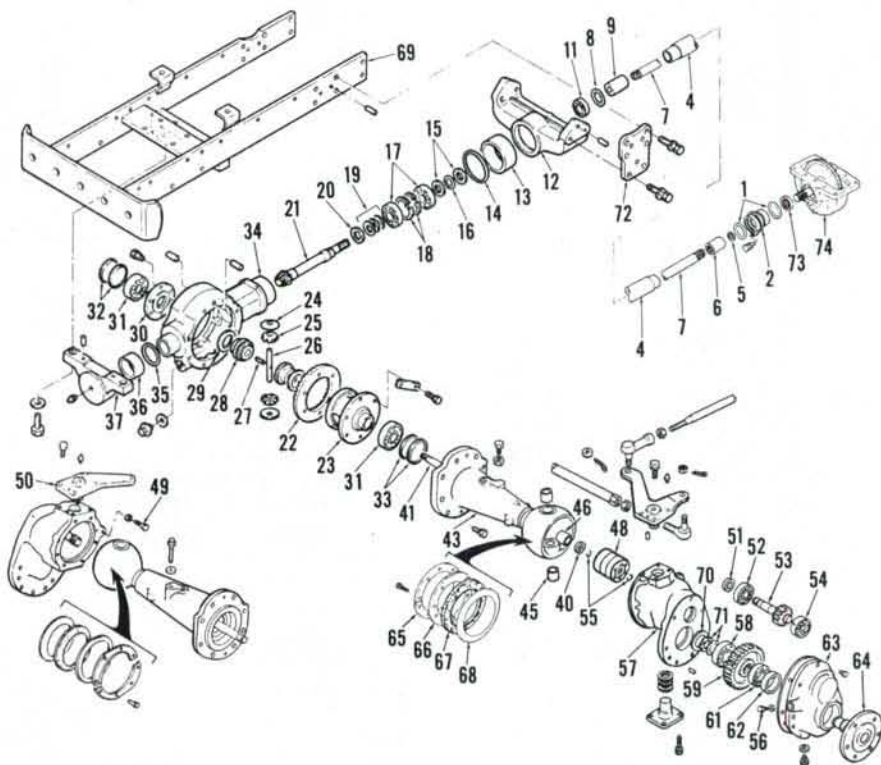

Fig. 8—Exploded view of front wheel drive axle assembly used on 1300 models.
ion shaft is integral with the pinion gear (53—Figs. 8 and 9) and universal joint (48) can be removed without disassembling outer drive unit. To disassemble outer drive, remove snap ring from inner end of pinion shaft (53). Unbolt and separate outer cover (63) from housing (57). Remove nut and washer (71), then tap wheel axle (64) out of bearings and gear. Remove pinion gear, bearings and seals from housing and cover.
To reassemble, reverse the disassembly procedure. Note that shims (70—Fig. 8 and 9) are used on all except 1100 and 1200 models to adjust bearings (58 and 61) to zero end play.